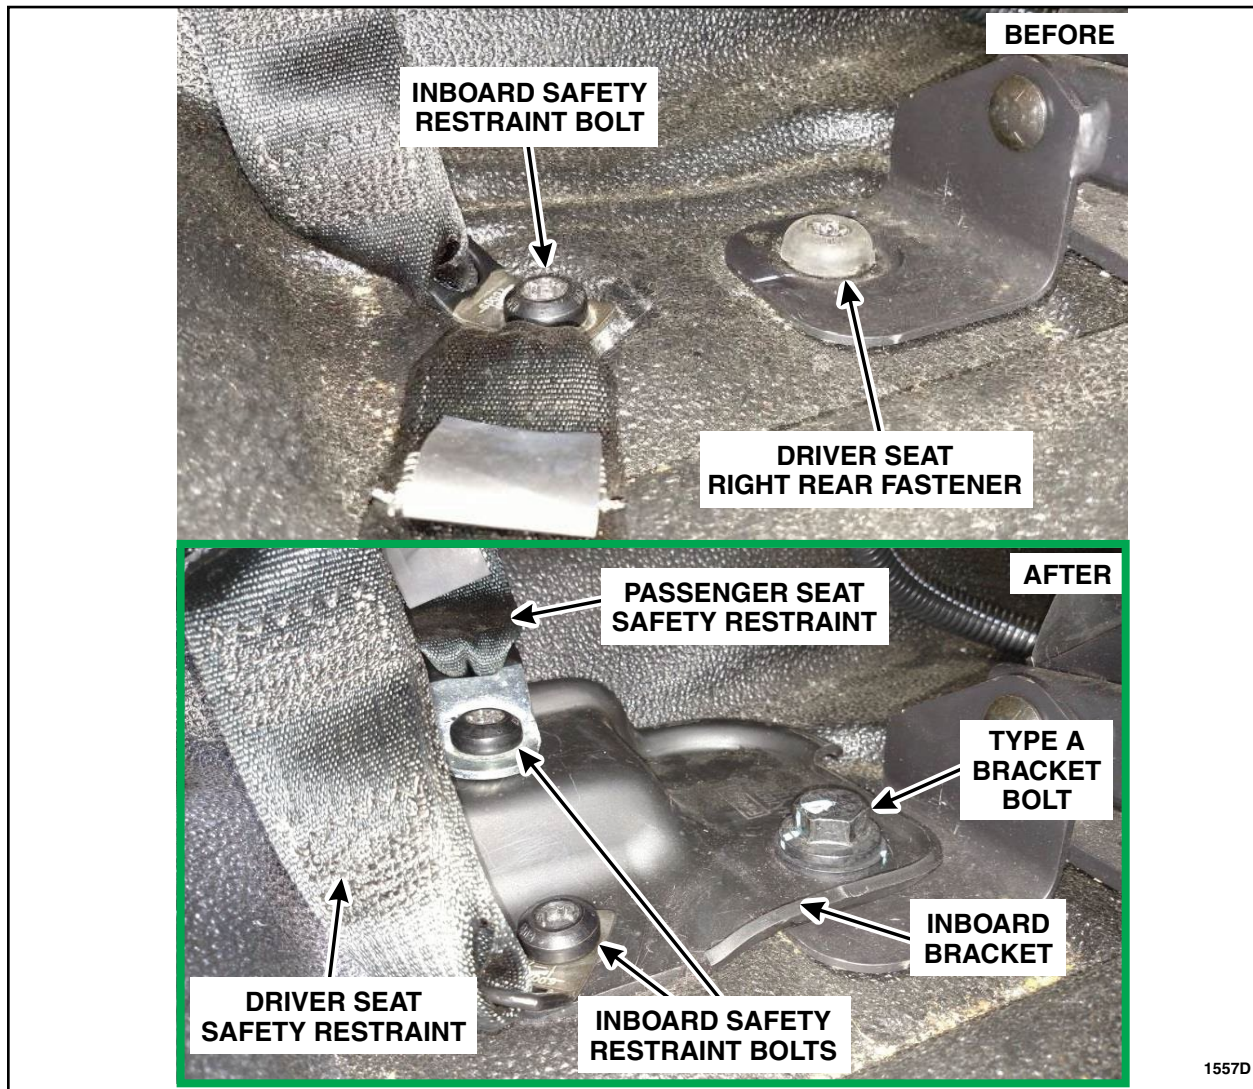

FIGURE 6
5. Install the inboard bracket (See Figure 6):